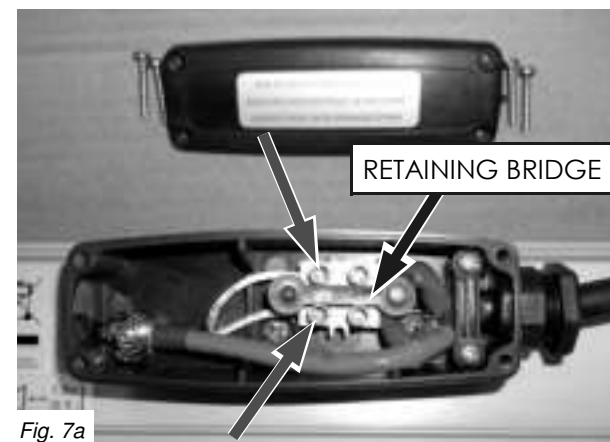
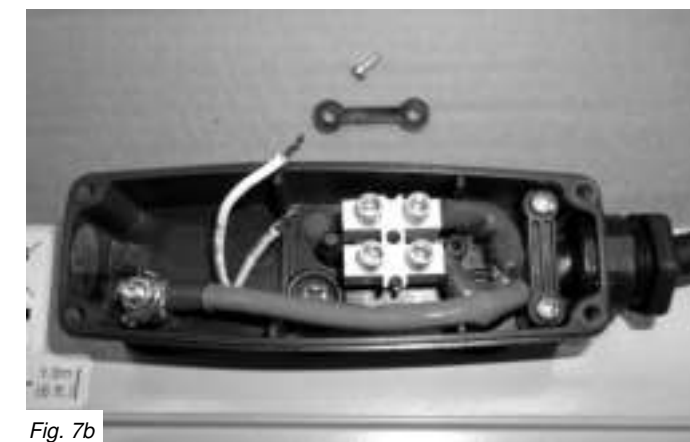

Fig. 7a
Fig. 7b
7. Remove the connector block retaining bridge by removing the screw and lifting out. This will allow the connector block to be lifted out of its locating lugs to allow for better access when connecting the new lamp terminals. For now though leave it in its locating lugs and unscrew the connector block screws as highlighted (Fig. 7a) and remove the white lamp wires so they are free (Fig. 7b).